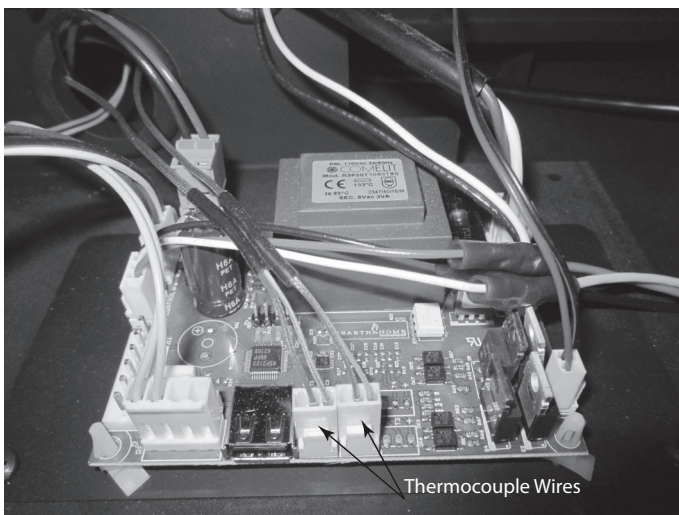

Figure 4.15 Unplug Thermocouple Wires
- Unplug the thermocouple wires from the control board. See Figure 4.15.